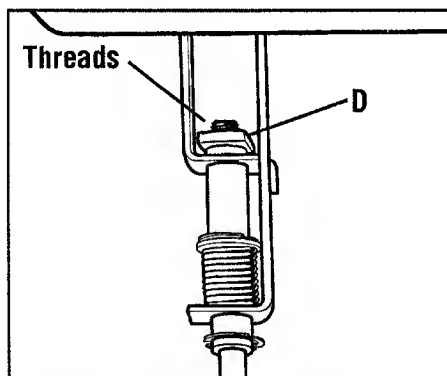

Figure 5-10: One or two threads on Forward Clutch Rod should be exposed above rectangular nut.
3. Unthread the Forward Clutch Rod (in a counterclockwise direction as viewed from the front of the unit) until one or two threads on the rod extend above the rectangular nut (D, Figure 5-10) on the forward clutch bracket.